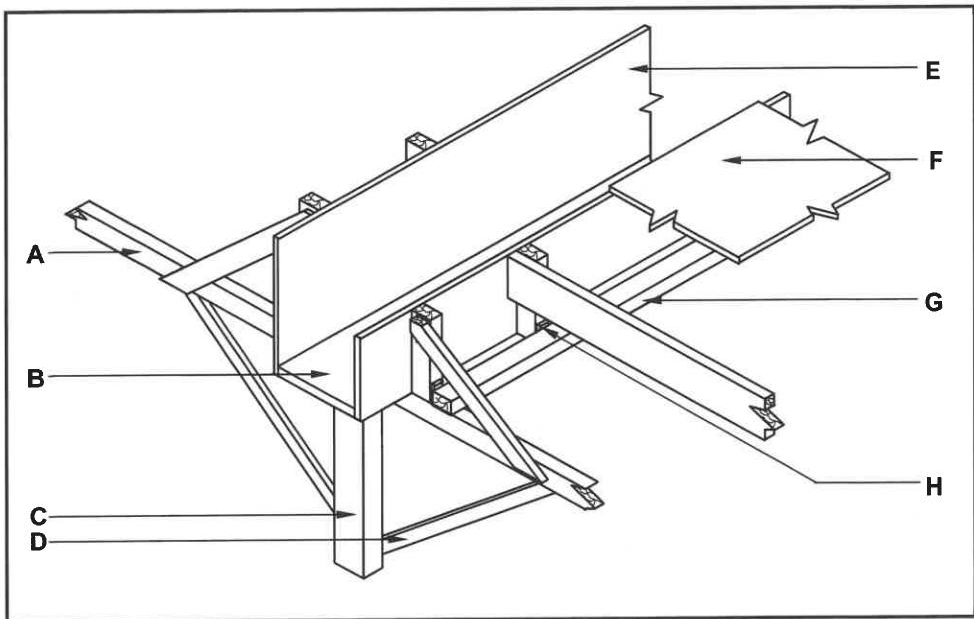

FIGURE 5.1
- 5.1 Study FIGURE 5.1 below. Match the word/term in the list below with the labels (A–H) in FIGURE 5.1. Write only the correct word/term next to the label (A–H) in the ANSWER BOOK, e.g. L – Plywood.